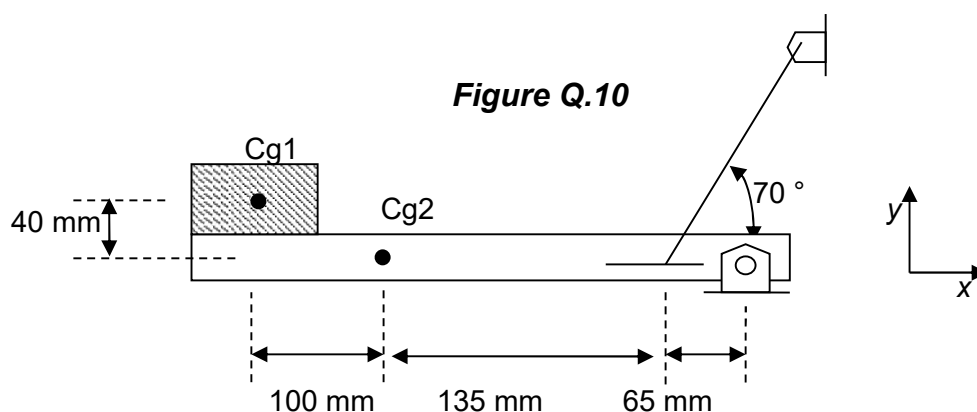

Figure Q.10
10. A ledge is supporting a 3 kg load, which has its centre of mass at its geometric centre ($Cg1$, **Figure Q.10**). The ledge itself has a weight of 1.1 kg (its centre of gravity is at $Cg2$ in **Figure Q.10**). A light, inextensible, string connects the ledge to a wall under tension. The ledge is also supported by a pin connected to the ground. Which ONE of the following statements is FALSE for the system to be in equilibrium: